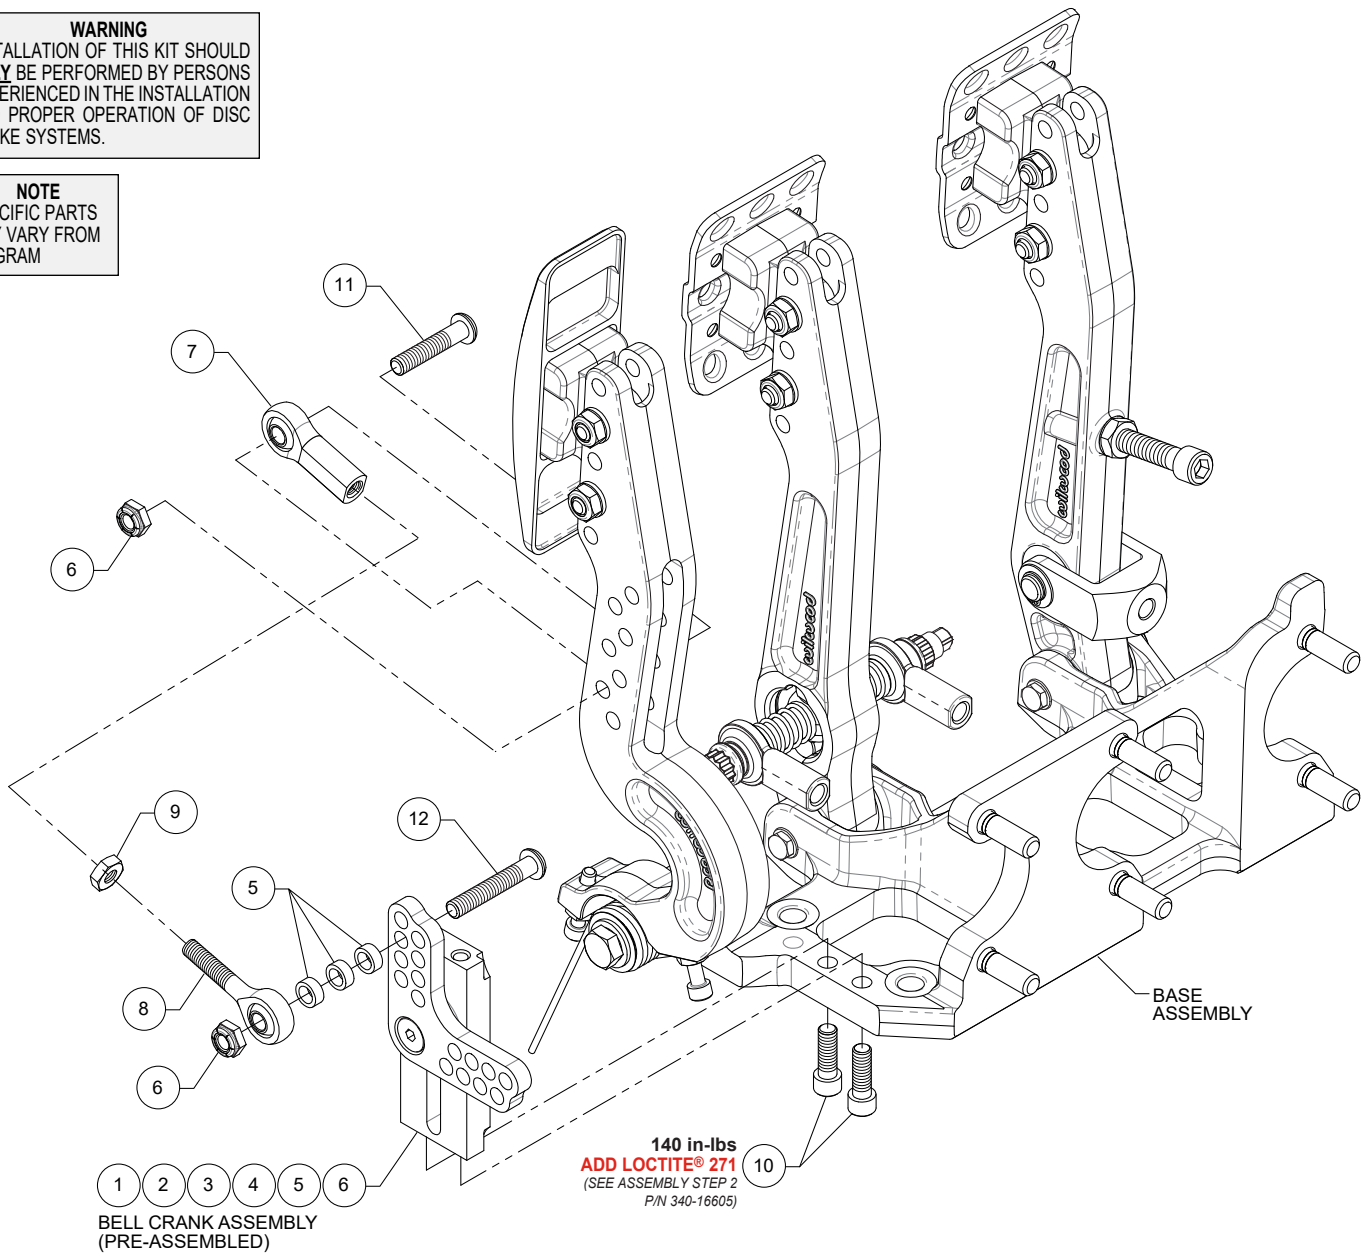

Figure 2. Throttle Linkage Assembly Configuration for Pedal Assembly p/n 340-16605
NOTE: Numbers in parenthesis refer to the parts list and Figure 2 on page 4.
STEP 2 Orient the bell crank assembly as shown in Figure 2 and attach to the pedal base using bolts (10). Apply red *Loctite*[®] 271 to the threads and torque to value shown in Figure 2.
STEP 3 Assemble the connecting rod. Screw jam nut (9) onto male bearing end (8) and then screw the female bearing end (7) onto the male end, Figure 2. Do not tighten jam nut at this time.
STEP 4 Install female bearing end (7) of the connecting rod into throttle pedal using bolt (11), and nut (6), as shown in Figure 2.
STEP 5 Attach the male bearing rod end (8) to the bell crank assembly using bolt (12), three spacers (5), and lock nut (6) as shown in Figure 2. **NOTE:** The bell crank assembly can be set up for a variety of throttle ratios. Final adjustment of the bell crank and connecting rod to be performed after pedal installation in vehicle.